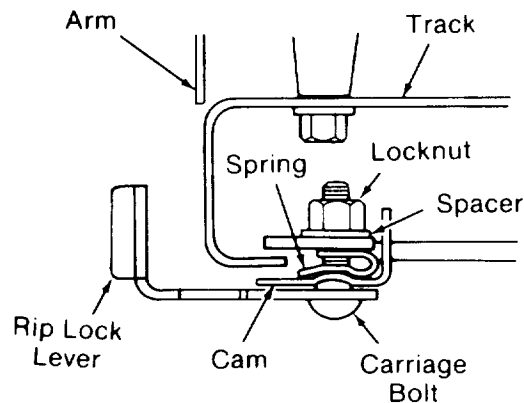

Fig. 162 - Location of Hex Lock Nut
1. Hold the *rip lock* in the unlocked position and with a 7/16 inch wrench, tighten the 1/4-20 hex lock nut 1/4 turn. (Figure 162)